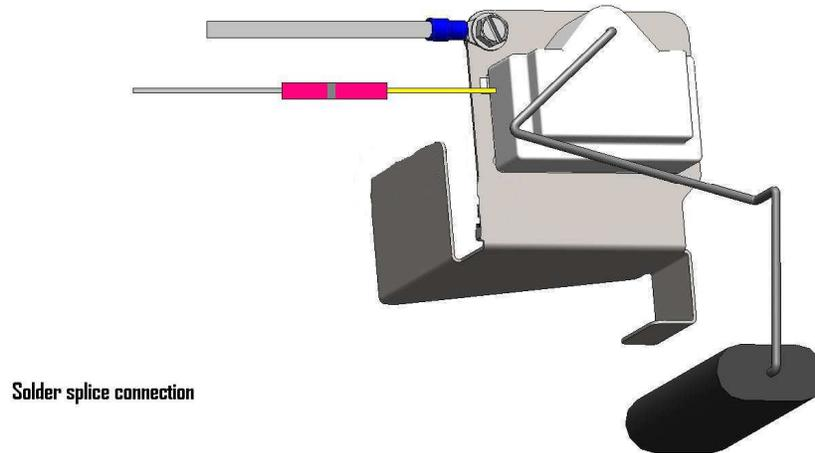

FIGURE 1-2
- 7 Before placing the fuel level sensor assembly in the tank, attach the two wires on the pump to the fuel level sensor assembly. Using one of the wires and the red solder splice, extend the factory wire coming from the fuel level sensor. Crimp the provided ring connector on the other wire and attach the ring connector to the bracket with the self threading screw. **FIGURE 1-2**